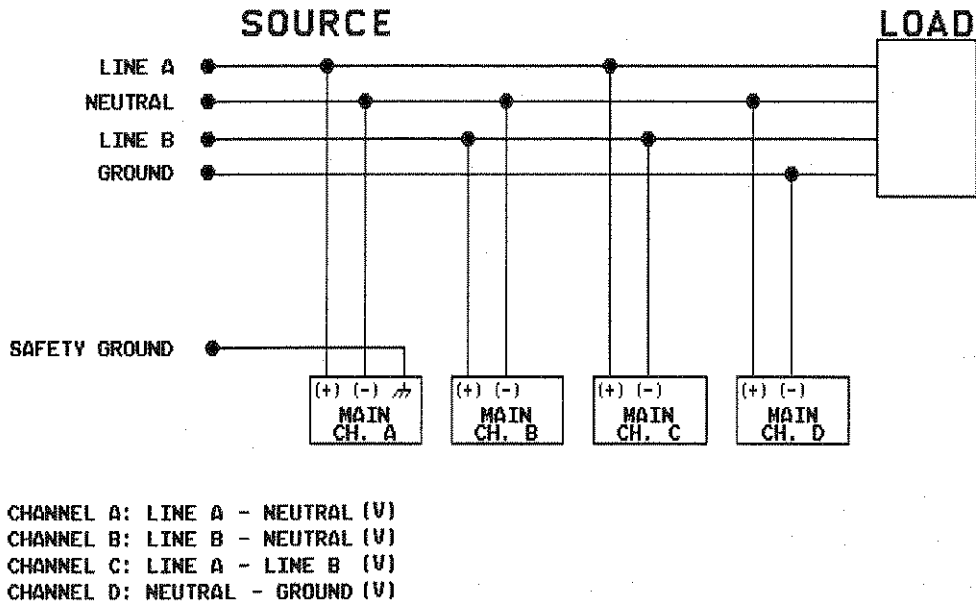
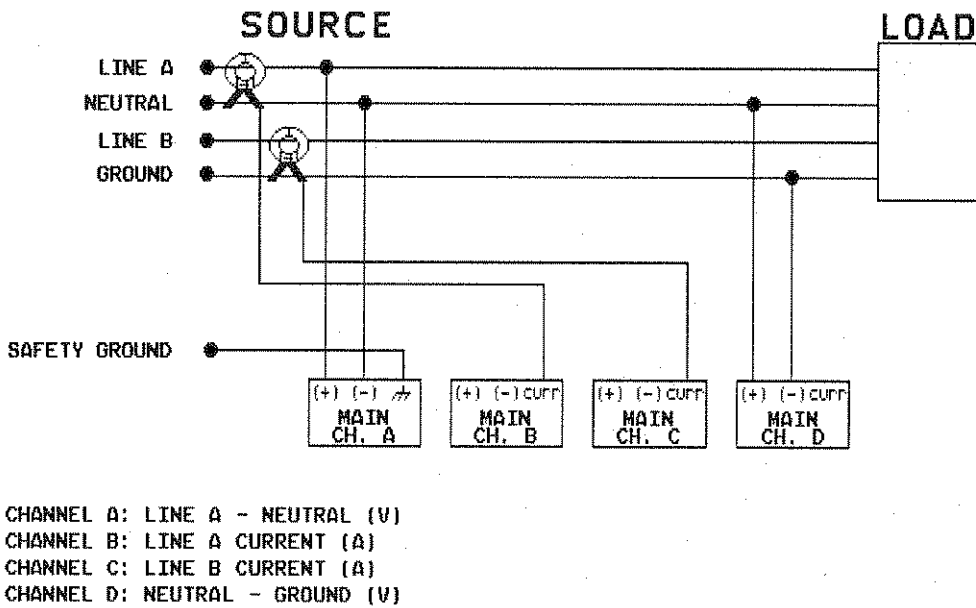

FIGURE 2-4. 120V/240V AC SPLIT PHASE CONNECTIONS
FIGURE 2-5. 120V/240V AC SPLIT PHASE CONNECTIONS WITH CURRENT INPUTS (656A ONLY)
- The 656 can monitor Line A-to-Neutral, Line B-to-Neutral, and Neutral-to-Ground voltages in a 120V AC split phase system, while also monitoring Line A-to-Line B voltage in a 240V AC split phase system (illustrated in Figure 2-4). This application would use all four Main channels. With the 656A, you could also monitor current on channels B and C while using channel A as the synchronization channel and channel D for Neutral-to-Ground voltages (illustrated in Figure 2-5).